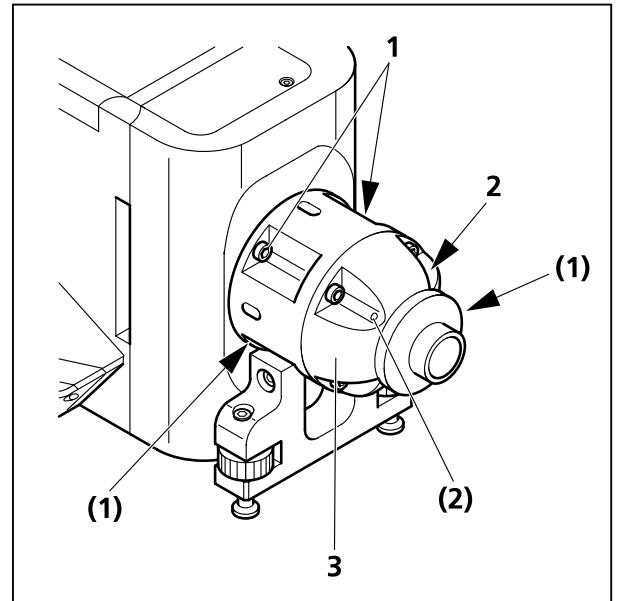

Fig. 4-10 Exchange of camera adapter
- Hold the camera (Fig. 4-10/3) adapter in a stable position.
- Loosen the four fixing screws (Fig. 4-10/1) of the camera adapter.
- Take the camera adapter (Fig. 4-10/3) off.
- Insert the EMCCD camera adapter into the spinning disc unit in such a position that the two screws (Fig. 4-10/2) point to the top.
The fixing screws (Fig. 4-10/2) of the adapter end piece must face towards the top. Otherwise, there may be malfunction.